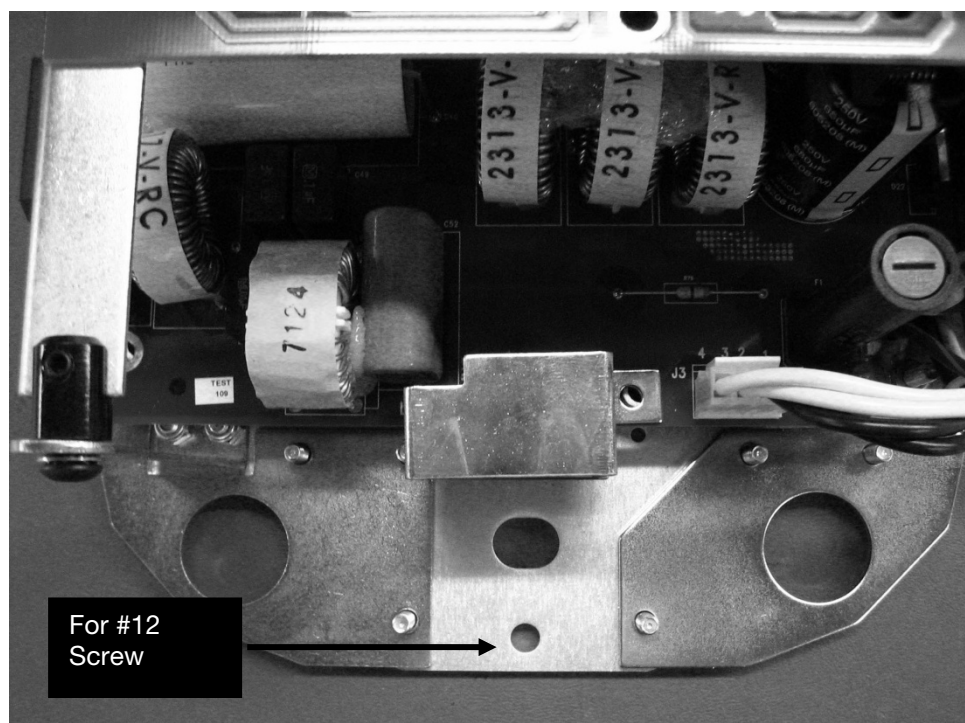

Figure 15
7. Pre-drill a hole for a #12 wood screw below the lower lag screw, as shown in *Figure 15*. Install and tighten the wood screw to prevent the unit from shifting.